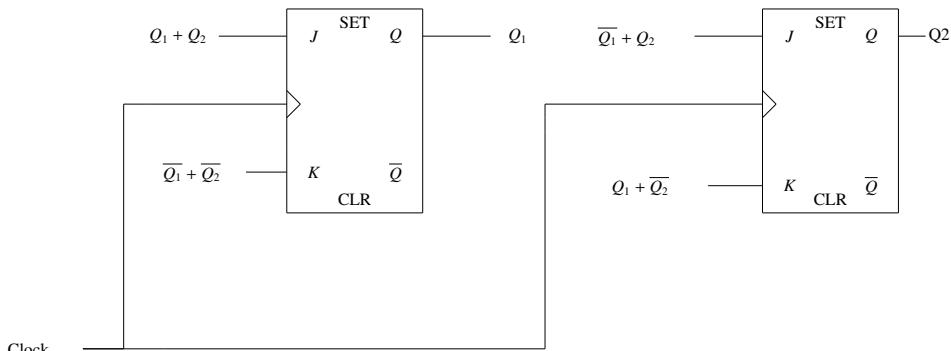

Fig. 5.22
22. A 2-bit synchronous counter using two J-K flip flops is shown in Fig. 5.22. The expression for the inputs to the J-K flip flops are also shown in the figure. The output sequence of the counter starting from $Q_1Q_2 = 00$ is _____ (GATE IN 2018)